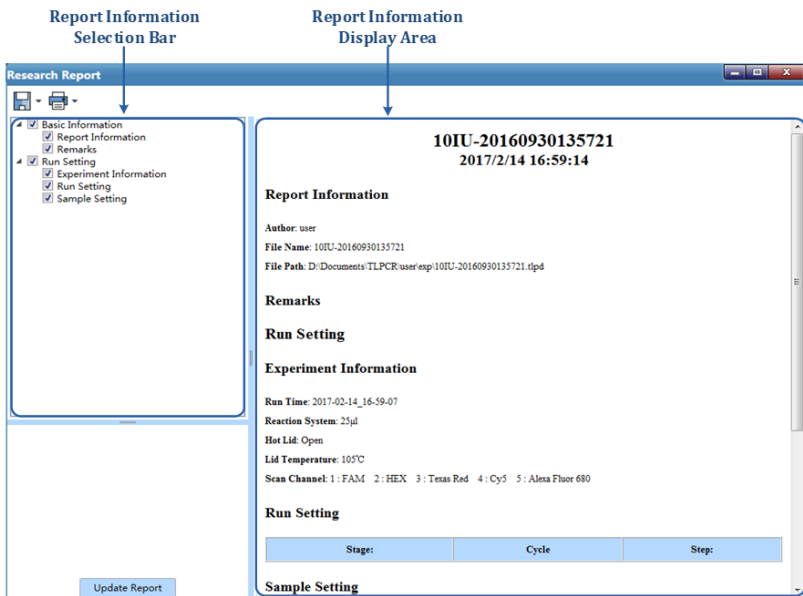

Figure E-3.4 Research Report Interface - Research Report
3. **Research Report:** Click **Research Report** option in **Tool** submenu and the application software will pop up the research report interface, as shown in figure E-3.4.